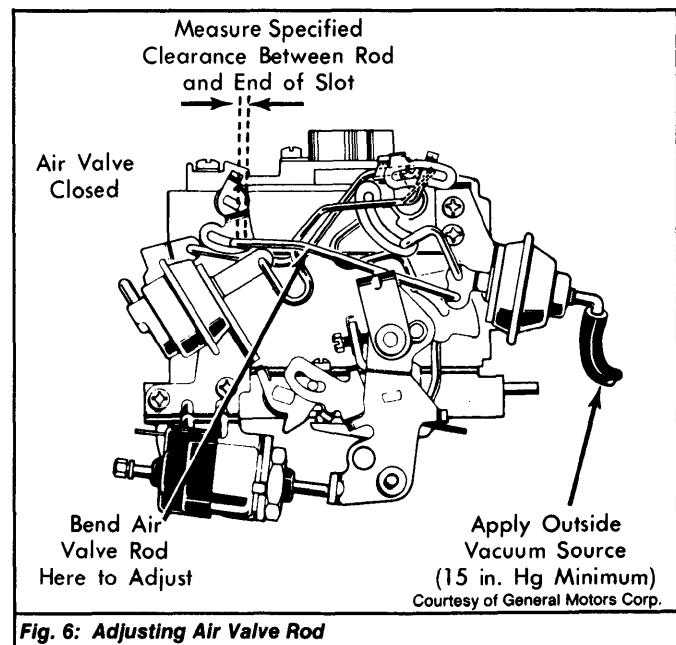

Fig. 6: Adjusting Air Valve Rod
1) Using an outside vacuum source of at least 15 in. Hg, seat primary choke vacuum break diaphragm plunger. Completely close air valve. See Fig. 6.